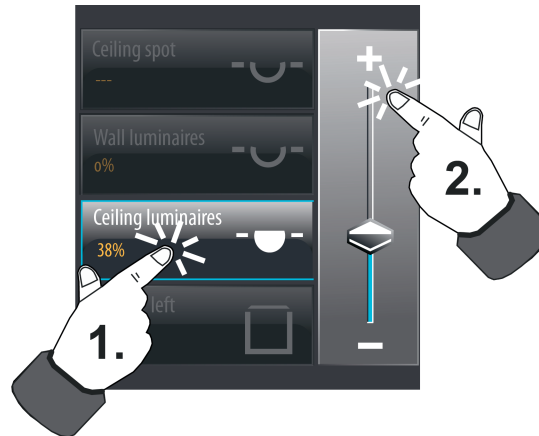

Figure 19: Example of a selection operation
This is different in the case of a selection operation. In this case, an operating area is also displayed in the device display next to the display surface of the element (figure 19). Operation requires the selection of an element (1) that can then be operated (2.). Depending on the number of functions available in the room or function unit, up to 4 selectable elements can be displayed simultaneously during a selection operation. The display grid also adapts itself depending on the number of elements. In the case of 2 or more visible elements, the unselected elements remain visible in the display but are greyed out and can therefore not be linked to the control surface. It is possible to change the controllable function at any time by touching another display element with your finger.